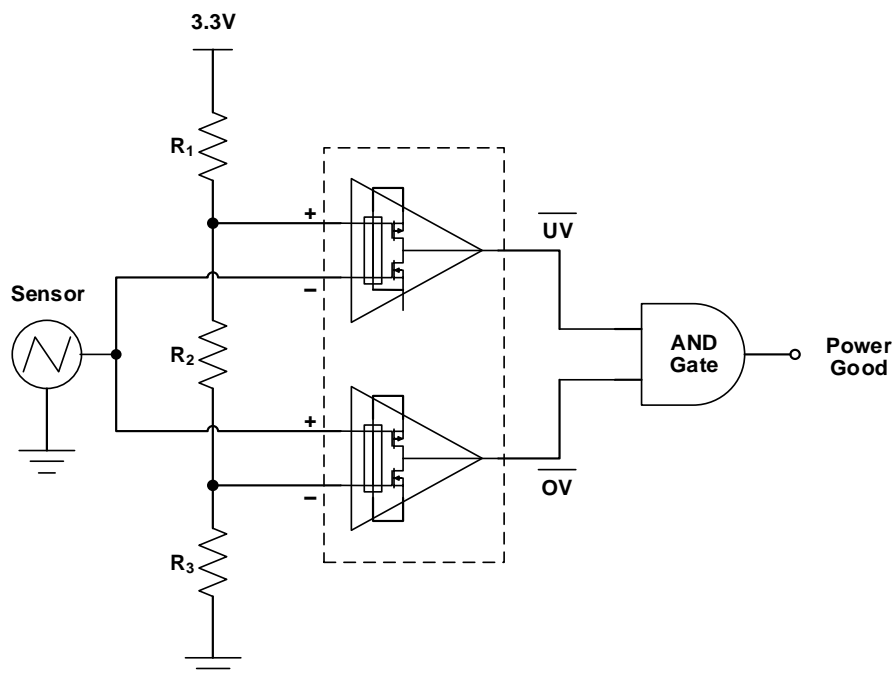

Figure 22. Window Comparator
Window comparators are commonly used to detect undervoltage (UV) and overvoltage (OV) conditions. Figure 22 shows a simple window comparator circuit.
Configure the circuit as shown in Figure 22. Connect V_{S+} to a 3.3V power supply and V_{S-} to ground. Make R_1 , R_2 and R_3 each 10M Ω resistors. These three resistors are used to create the positive and negative thresholds for the window comparator (V_{TH+} and V_{TH-}). With each resistor being equal, V_{TH+} is 2.2V and V_{TH-} is 1.1V. Large resistor values such as 10M Ω are used to minimize power consumption. The sensor output voltage is applied to the inverting and non-inverting inputs of the 2-channel GD30CP5020's. The respective comparator outputs will be low when the sensor is less than 1.1V or greater than 2.2V. V_{OUT} will be high when the sensor is in the range of 1.1V to 2.2V. See the application curve in Figure 23.